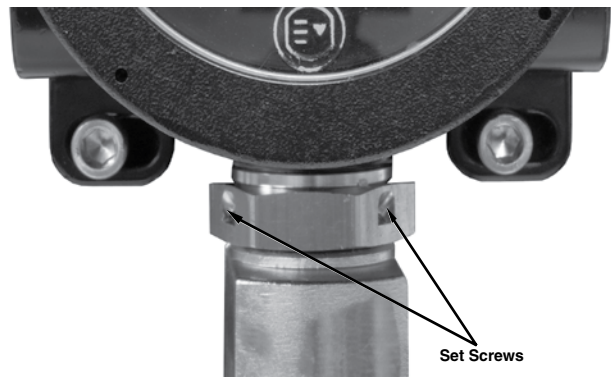

Figure 6—Location of Lock Nut and Set Screws (Metric Models Only)
3. Tighten the set screws (minimum of two) to prevent movement of the lock nut. See Figure 6.